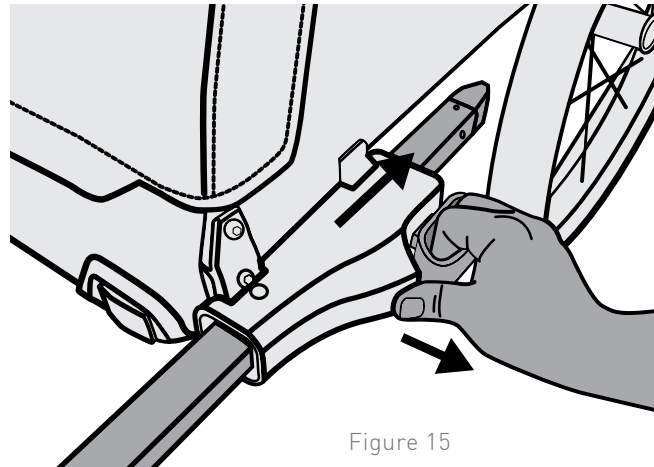

Figure 15
2. Adjust tow bar into the strolling position (Figure 15) by removing the secondary retaining pin and pulling on the Quick Receiver release handle, sliding the tow bar further in towards the trailer until it locks into place, and then re-installing the secondary retaining pin.